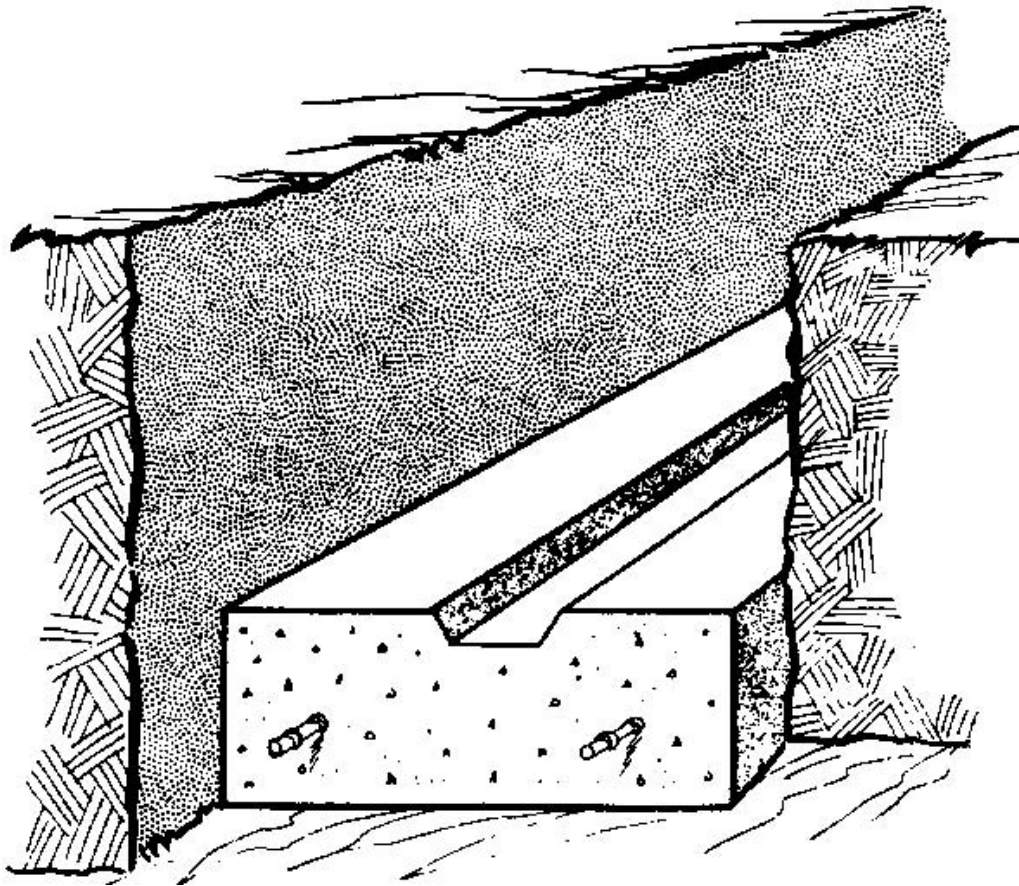

Figure 28.
**CONCRETE FOOTINGS** - Footings made from poured concrete are the most popular type because they are easy to make and work very well; however, they will probably be the most expensive type. Usually forms are not needed: as a trench can be dug to the correct depth and width of the footing and the concrete can be poured directly into the trench to form the required footing thickness. (See Figure 28.) If the soil is sandy or tends to slide or cave in, then simple forms are required to insure that the footings are wide enough and that the soil does not fall in the freshly poured concrete. These forms may consist of boards with width equal to the thickness of the footing and held in place by enough wooden stakes to keep the boards from moving or bowing. *The forms should always be removed*, but not earlier than 48 hours after the concrete has been poured. It is best to cure the concrete for several days by covering it with wet sacks, leaves, etc.
If reinforcing rods are used, they are placed in the excavation and *securely supported* at the proper height before the concrete is poured. The top finish of the footing is left very rough to provide a good bond for the foundation wall. It is usually a good idea to leave a small channel or groove in the center of the footing as shown in Figure 28 to provide additional bond between the footing and the foundation wall if the footing is made of concrete. If at all possible in earthquake areas, short lengths of steel reinforcing rod should be placed in the footing so they will project into the foundation wall and tie it securely to the footing. This usually requires careful spacing of these rods.